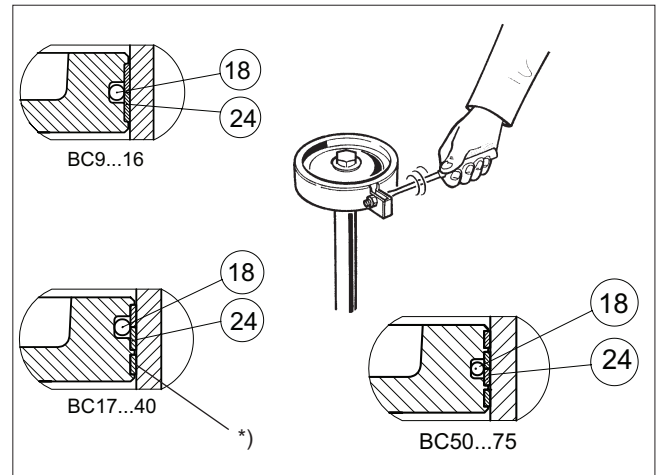

Fig. 10 Tightening piston seals with a tie ring
- Place the O-ring (18) under the piston seals.
- Locate the seals (24) around the piston so that the ends of the strips come on opposite sides. Tighten the strips with the tie ring as shown in Figure 10. The strips marked with an asterisk (\*) may be cut 1.5-3 mm shorter to facilitate assembly.